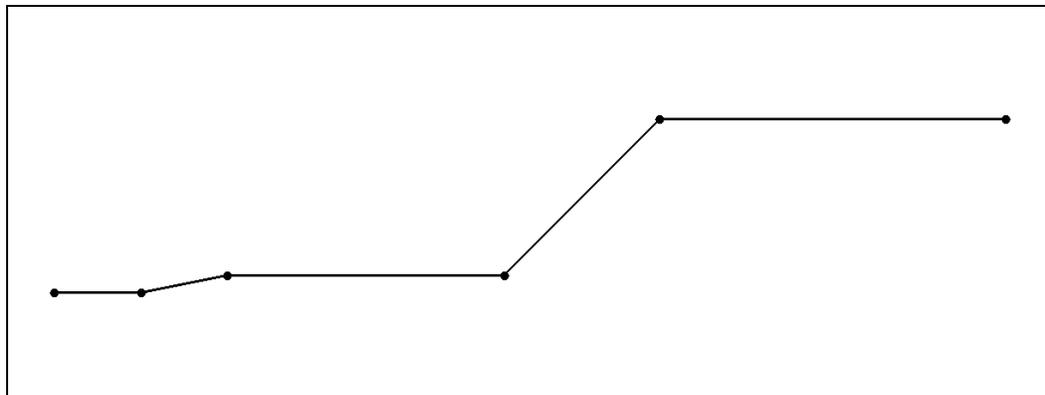

Figure 5. The Slope Geometry Arcs.
- Using Figure 5 (below) as a guide, click on the points to connect them with arcs to create the slope.
At this point you should see something like Figure 5 below.